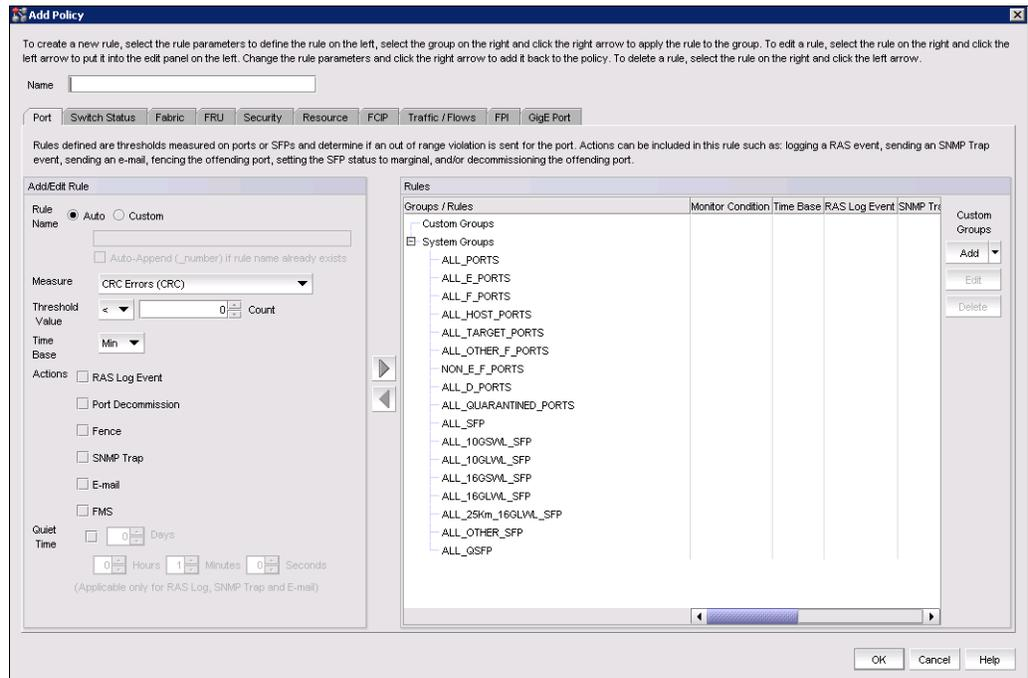

Figure 7-6 Add a policy
2. Click **Add** to add a policy (Figure 7-6).